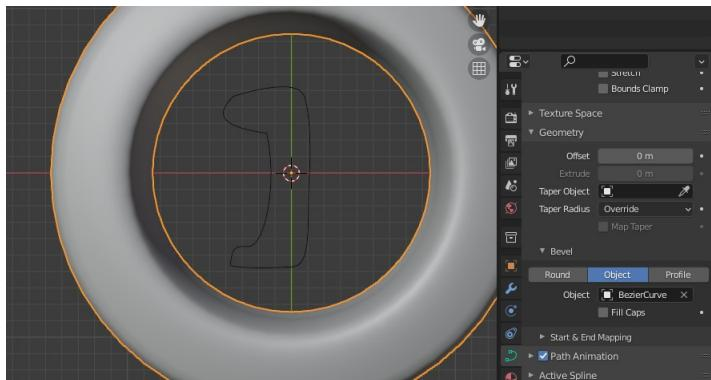

Figure 3-3 Profile along the length of a Curve using an Object for the Bevel
2. Modify the profile curve to suit your ring design. With the Bézier curve selected switch to Edit mode and set the view to orthographic from above, the Z direction. Now create an interesting profile for the ring. I decided that it would be a token of love given to a steam engine enthusiast so I made it in the shape of train track but you can choose anything you like, presumably the inside should be smooth against the wearer's finger. Use E to extrude the end control point then G, R and S to form the shape. My rail section is visible in the center of Figure 3-3.
- In order to make the ring solid you need to join the ends up using **Curve ▶ Toggle Cyclic**. When you are happy with the profile, still in Edit mode, position and rotate the curve so the outside half of the profile is to the left of the Y axis and the inside half to the right, as in Figure 3-3.
- To make one curve use the a different curve as a profile, you need to specify it as a Bevel. In Object mode select the Bézier circle and in the Object Properties tab open Geometry then Bevel and select **Object** then choose the Bézier curve, shown on the right of Figure 3-3.